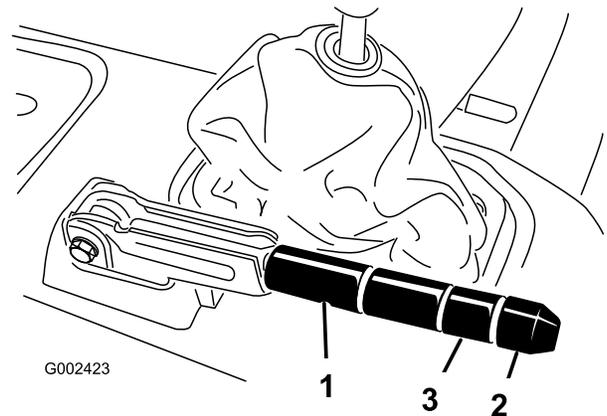

Figure 50
2. Loosen the set screw securing the knob to the parking brake lever (Figure 50).